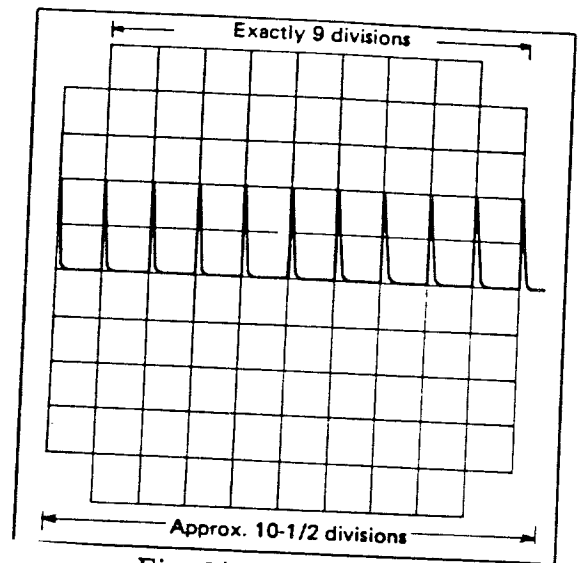

Fig. 16. Sweep Length
2. Adjust TC301 to duplicate the conditions shown in Fig. 16.